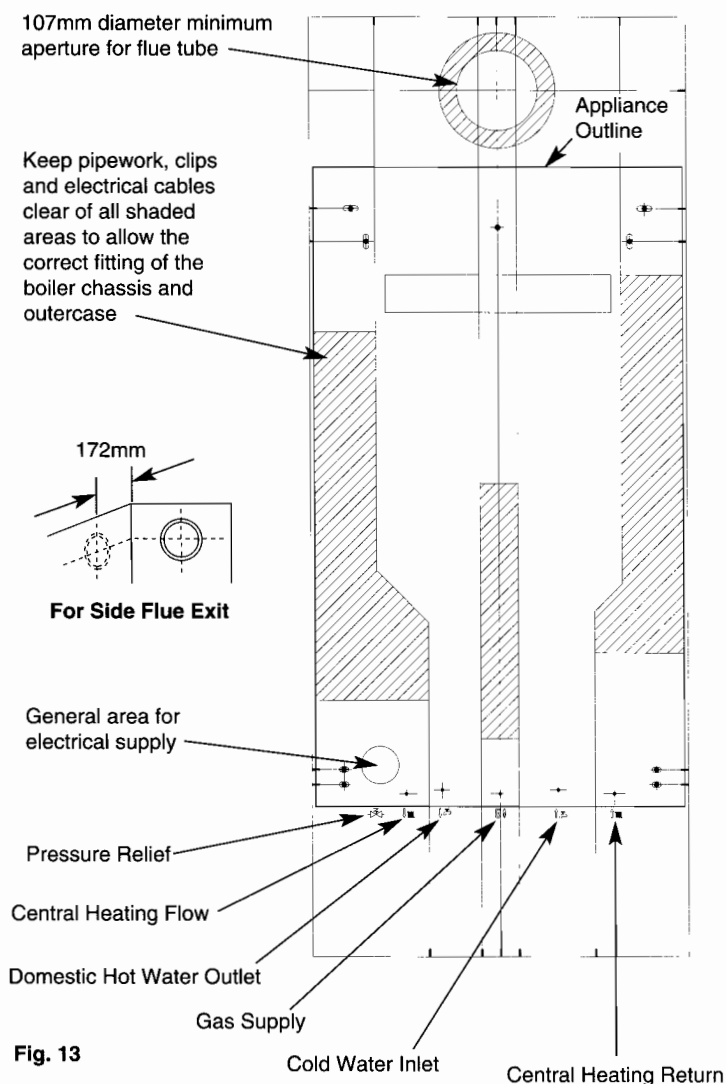

Fig. 13
1. Remove the fixing template (Fig. 13) from the fixing carton.